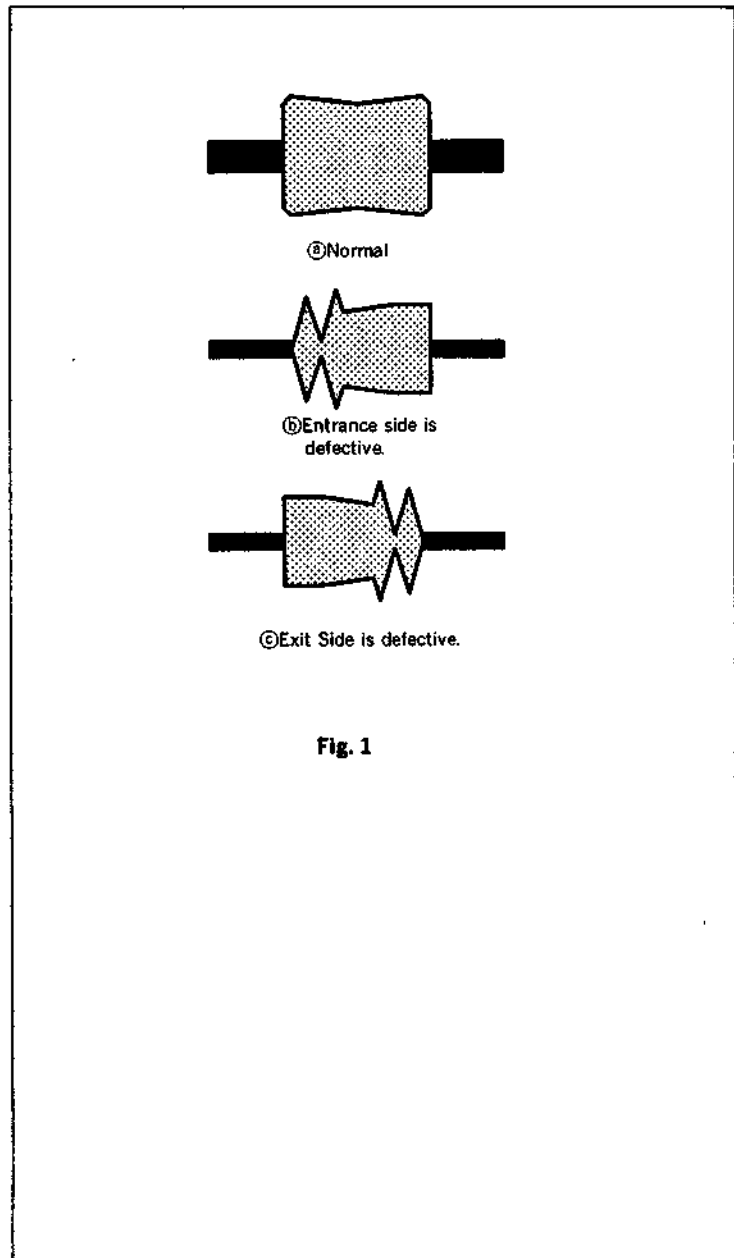

Fig. 1
- (3) Set the SEL switch of the Track Shift Tool to OFF and play back the alignment tape for tracking (WR5-1NP). Check that the RF waveforms of both entrance and exit sides are flat. (fig. 1 (a)) If the RF waveforms of both sides are not flat, adjust them as follows.
- . In case of the RF waveform at the entrance side is not flat. (fig. 1 (b))
- . In case of the RF waveform at the exit side is not flat. (fig. 1 (c))